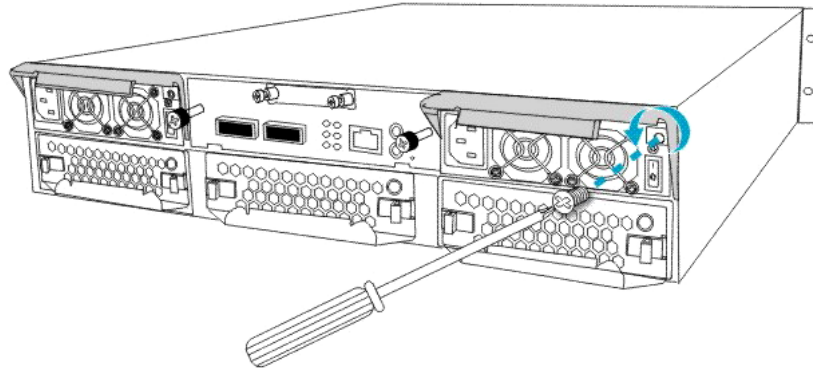

Figure 5-10: Removing the PSU Retention Screw
Step 3. Remove the PSU retention screw that secures the extraction handle to the chassis. (See **Figure 5-10**)